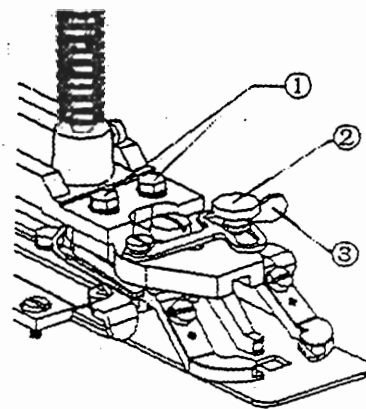

图 11 Fig.11
If the needle can not fall in the center of holes in the button due to improperly installed button clamp, then the button clamp must be adjusted. Loosen two hexagon screws (1), and move the button clamp properly (as shown in Fig.11). Check if the needle falls in the center of hole in feed plate before adjusting the button clamp.
#### 5. Adjusting button clamp (as shown in Fig.11).
#### 5. 钮夹的调整(见图 11)